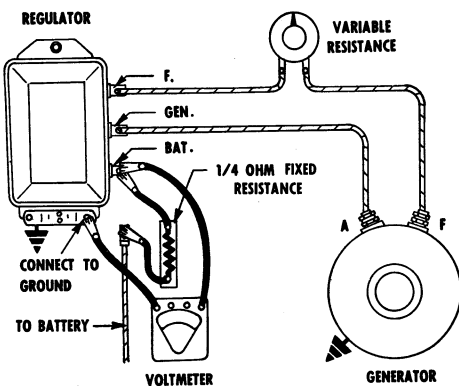

Fig. 47 Connections for checking voltage on Delco-Remy dual contact voltage regulator
1. To adjust this type of regulator the battery must be fully charged to limit the charge rate to 1 to 10 amperes. If above 10 amperes, insert a $\frac{1}{4}$ ohm resistor in series with the battery, Fig. 47.